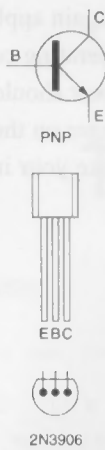

Figure 9-4 Coin Tossers semiconductors
Locate the three transistors, refer to the diagram shown in Figure 9-4. All the transistors are PNP types, but these transistors are available in two package styles, the TO92 plastic type and the TO5 metal can type transistor. Identify which package style you have and note that the transistors have three leads. In the TO92 package the Emitter of (E) pin will be at one end of the package. Generally the transistor pin-outs are viewed from the bottom of the transistor. The transistor Base (B) pin will be in the center, while the Collector (C) will be at the opposite end of the transistor. In the TO5 metal can style transistor package the center Base pin will be offset from the Emitter and Collector pin. Note that the Emitters of both transistors are connected together and sent to the plus (+) battery terminals. Observe that the Bases of the two transistors are tied together through potentiometer P1. You will see that the